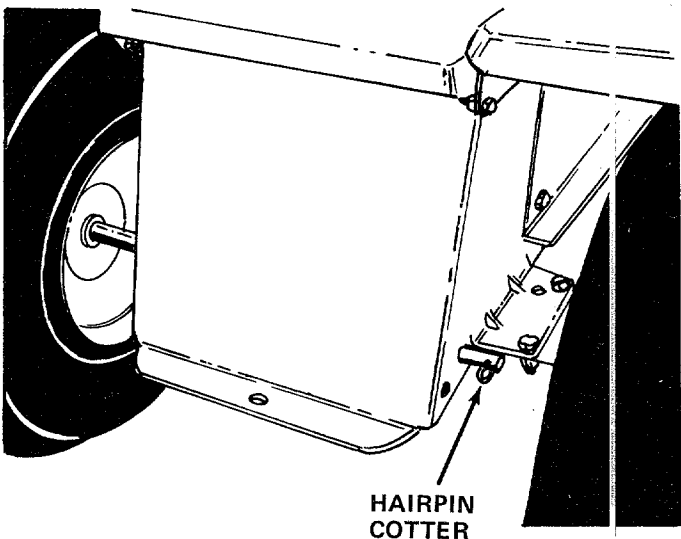

FIGURE 5
3. Remove the two hairpin cottes on the rear of your tractor. See figure 5. These will be re-assembled to your unit in steps 4 and 9.